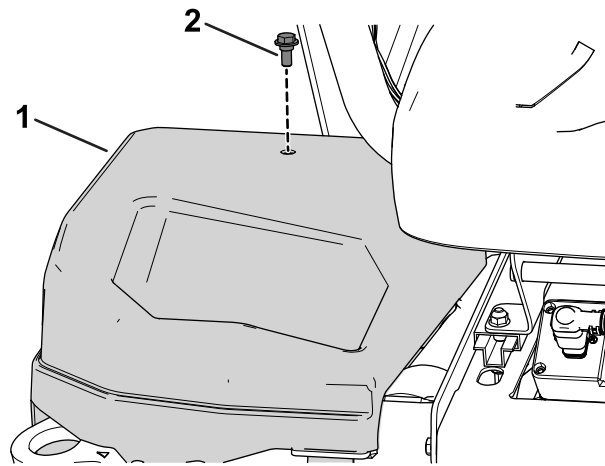

Figure 28
1. Remove the cover from the right side of the machine (Figure 28).